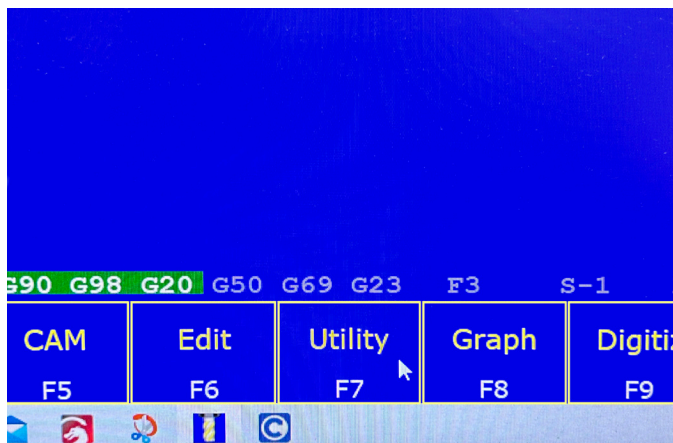

FIGURE 1
- A. Click on “Utility F7” and then on “Acorn Wizard F10” (see Figures 1 and 2).